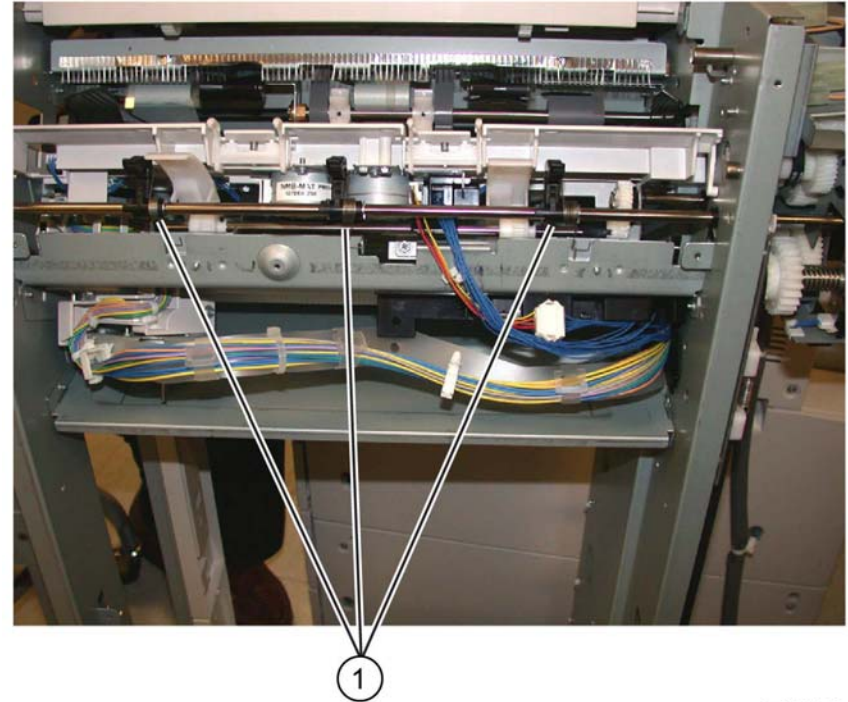

Figure 12 Preparing to install holder springs
4. Slide the three set clamp holders with springs (1) into the correct location on the shaft, **Figure 12**.